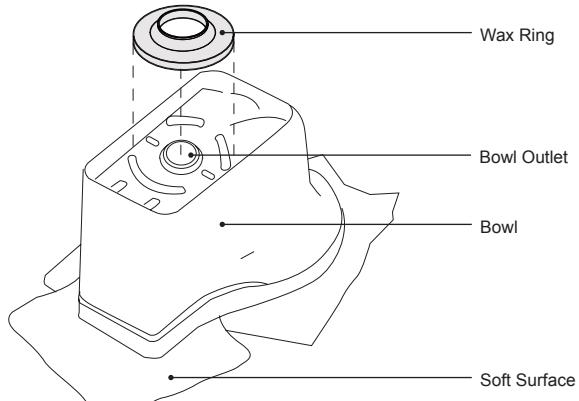

Figure 3
⚠️ When placing the wax ring over the toilet outlet, the tapered flange must be facing up (Figure 3). This tapered flange will rest in the opening in the floor.
- ② Place the wax ring over the toilet outlet opening (Figure 3).